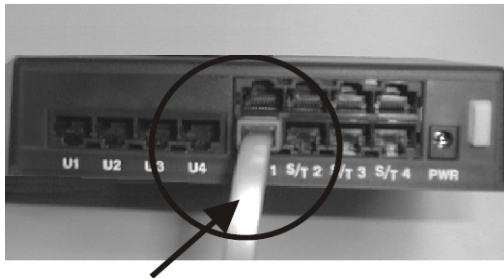

Figure 6. S/T-Interface Connector
Step 4: Connect one end of the RJ-45 to RJ-45 cable provided to one of the S/T connectors on the UT4620. Connect the other end to the TE. This is illustrated in **Figure 6** on the next page.